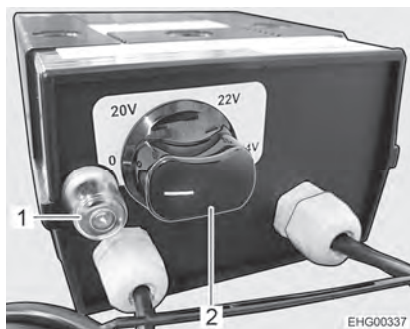

Fig. 119 Regulator for electrical floor warming unit
- Turn the control knob (Fig. 119,2) to the required heating level.
- Turn control knob (Fig. 119,2) to "0" position.
If the regulator is overloaded, the overload protection is actuated. The pin (Fig. 119,1) jumps out.
- Press the pin (Fig. 119,1) on the overload protection when the regulator is cooled.